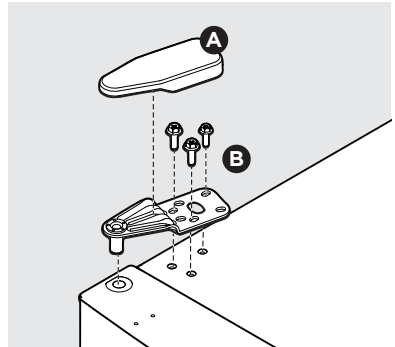

Figure 11
27. Reattach the top hinge (B) onto the left side of the cabinet, using a 5/16" wrench. Replace the top hinge cover (A) (see Figure 11).